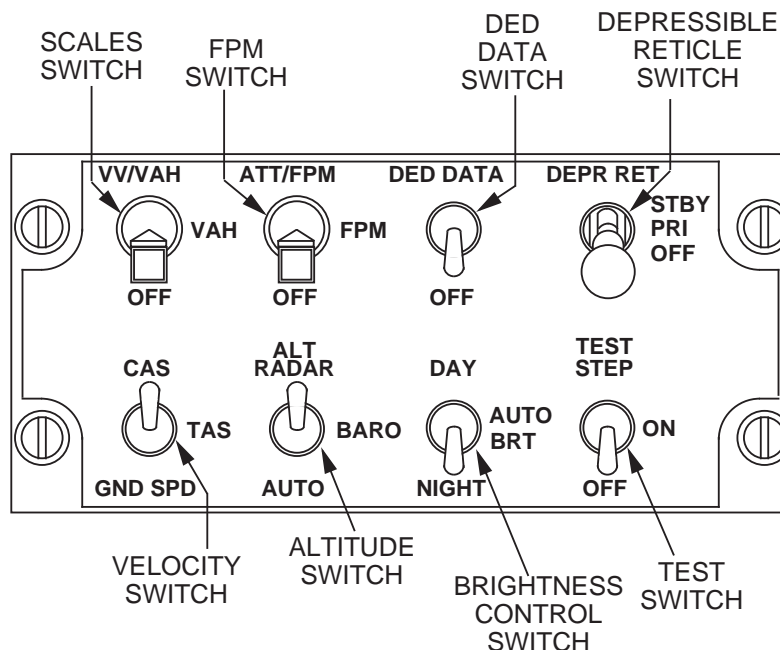

Figure 1-12 HUD Remote Control Panel
**HUD Remote Control Panel.** The HUD control panel, located on the right console (Figure 1-12), allows the pilot to select certain HUD symbology options to tailor the HUD format to current needs. Symbology options are master mode dependent. Airspeed and altitude (digital) are always displayed in the HUD regardless of master mode or HUD control panel switch locations.